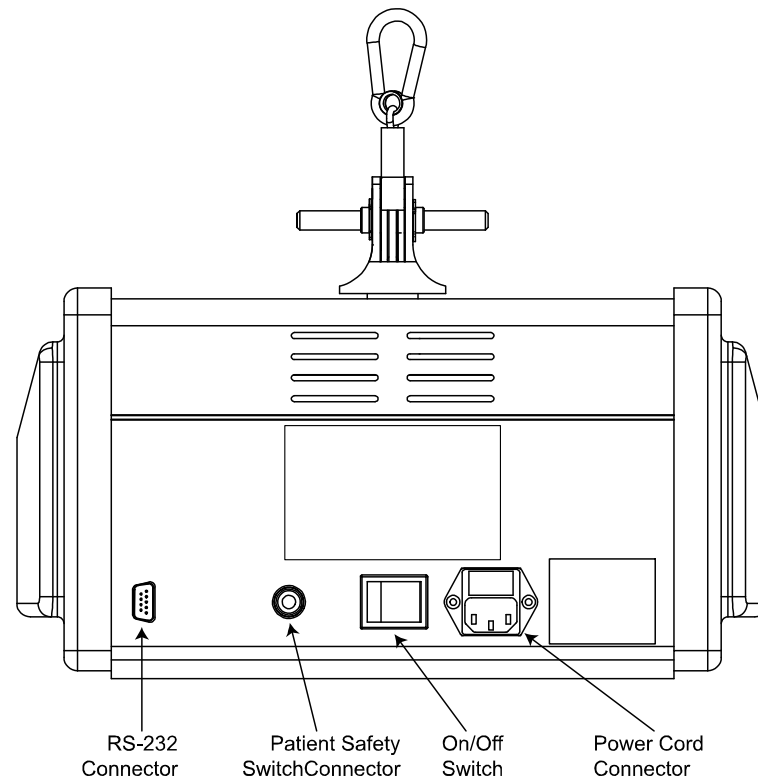

Figure 5.2— Rear View of the MTD 4000 Showing Connectors and Switches
8. Connect the line cord to the back of the MTD 4000. (See Figure 5.2)